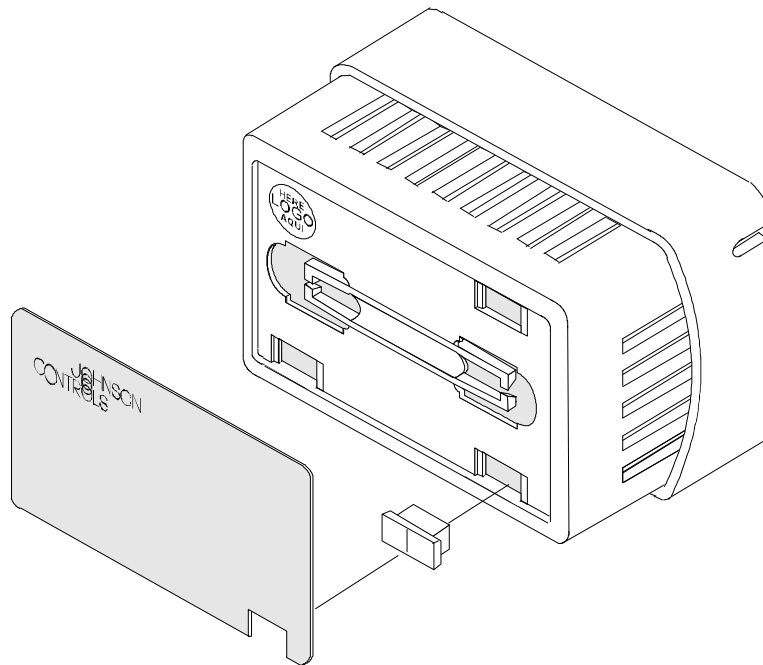

Figure 2: Installation of Window and Thermostat Cover Faceplate with Window
1. Insert the window into the lower right-hand corner opening in the front of the thermostat cover as illustrated in Figure 2.
2. Peel off the protective backing and the clear face covering on the faceplate *with* window and secure the window into place by installing the faceplate as illustrated in Figure 2.